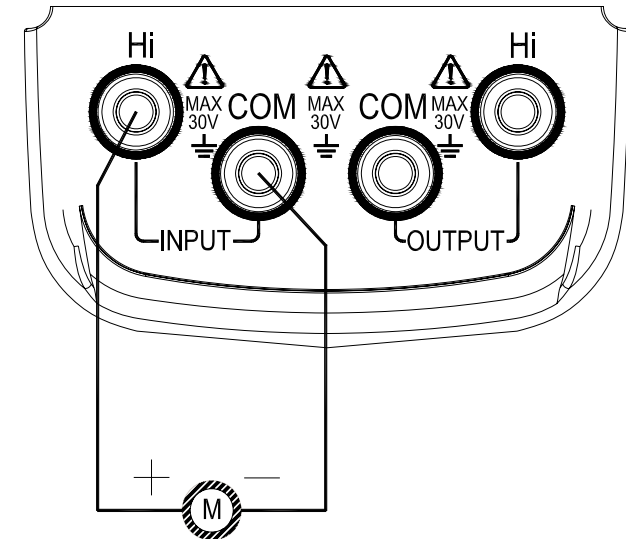

Figure 6-1
1. Insert the testing probe into the jack of the meter's input terminal (INPUT), and connect the other end with output terminal of the Users' meter, see Figure 6-1:
3. Press 【FUN】 key , select thermocouple(TC) function, and display '°C' unit and 'R' graduation no.;